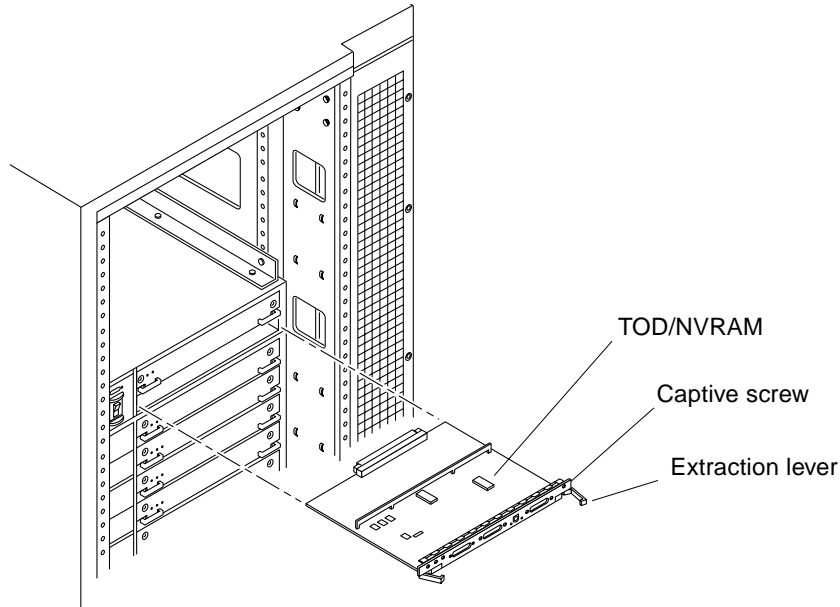

FIGURE 1-11 Clock Board and TOD NVRAM Location
1. Loosen the two captive screws securing the clock board to the system chassis, then pull the ends of both extraction levers outward simultaneously to release the board from the centerplane (FIGURE 1-11).
3. Attach a wrist strap and locate the TOD/NVRAM chip on the clock board (FIGURE 1-11).